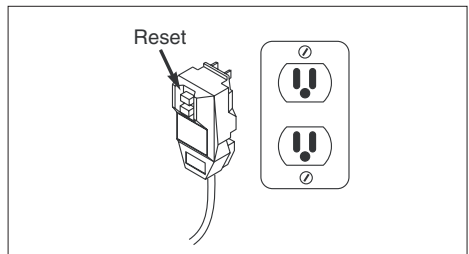

Figure 6 - Grounded plug/reset button
1. Plug the power cord into a grounded 120V outlet and press the reset button as shown in Figure 6.